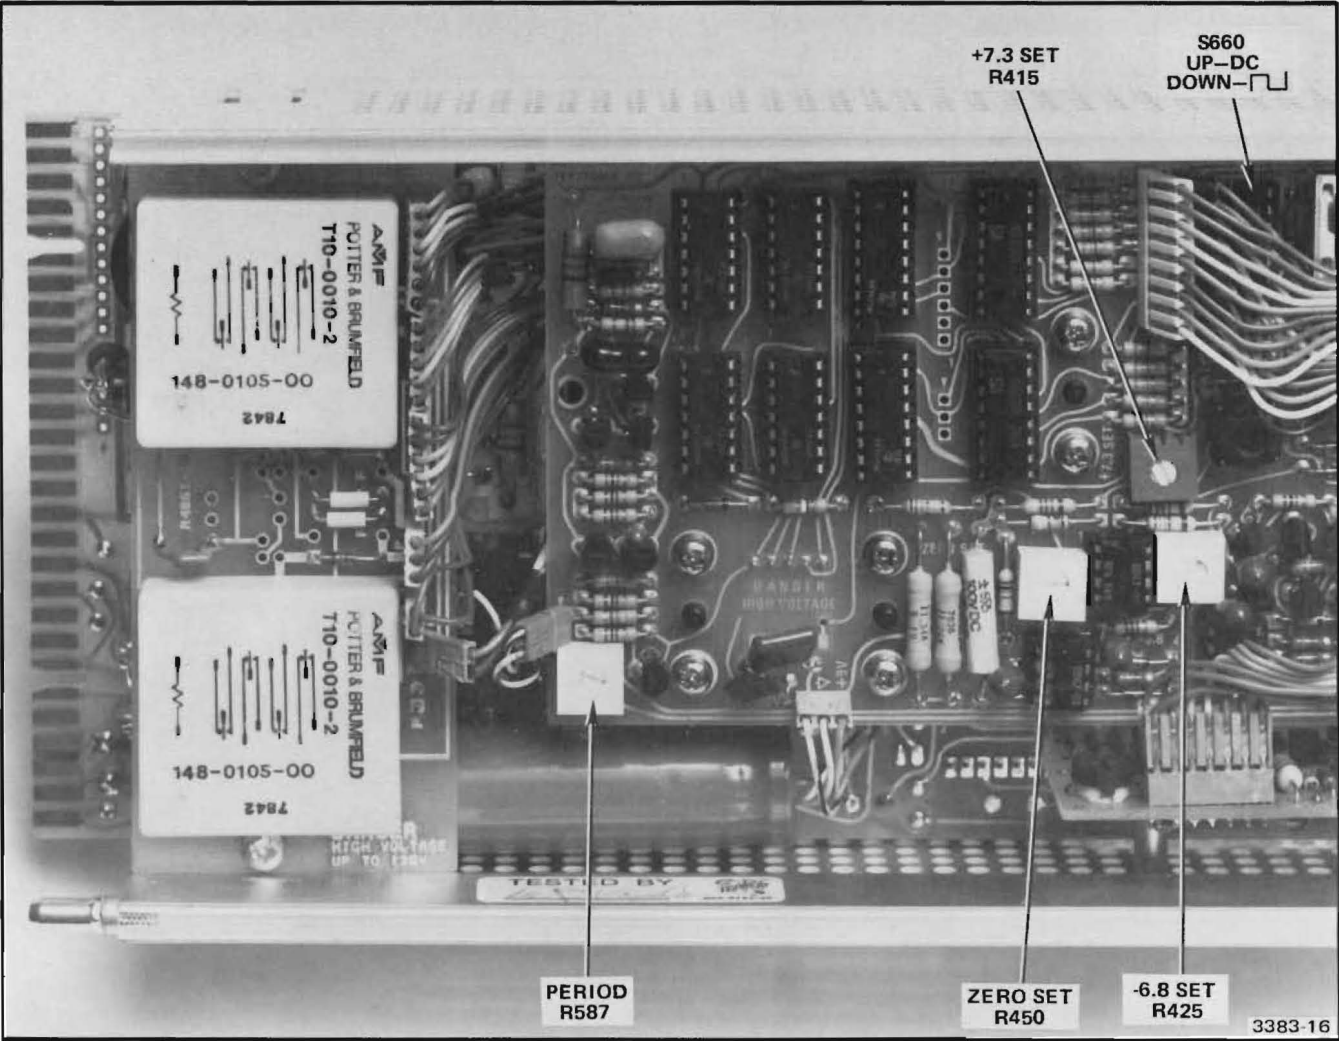

Fig. 4-6. Adjustment locations for the A2 DVM/Period circuit board.
DC— (S660)	DC (up) Refer to Fig. 4-6.
- d. Adjust—Zero Set (R450) for a 0.0% reading. Refer to Fig. 4-6.
- g. Adjust—-6.8 Set (R425) for a 6.8 reading. Refer to Fig. 4-6.
- j. Adjust—+7.3 Set (R415) for a 7.3 reading. Refer to Fig. 4-6.
- d. Adjust—Period (R587) for one complete cycle in 5 divisions. Refer to Fig. 4-6.